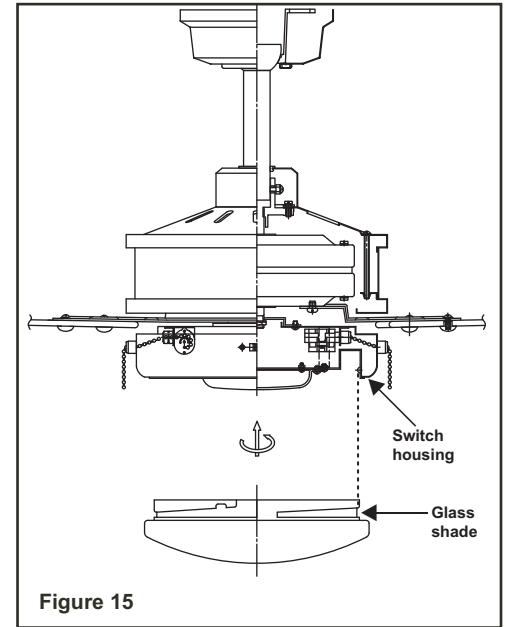

Figure 15
**Step 5.** Raise glass shade up against the LED light kit, and secure it to fan by turning light kit clockwise until snug. DO NOT OVERTIGHTEN. (Fig. 15)